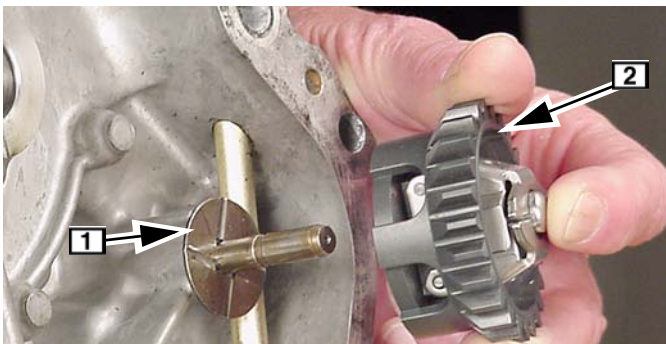

Fig. 144
1. Lubricate thrust washer **1** and assemble to governor gear shaft, Fig. 144.